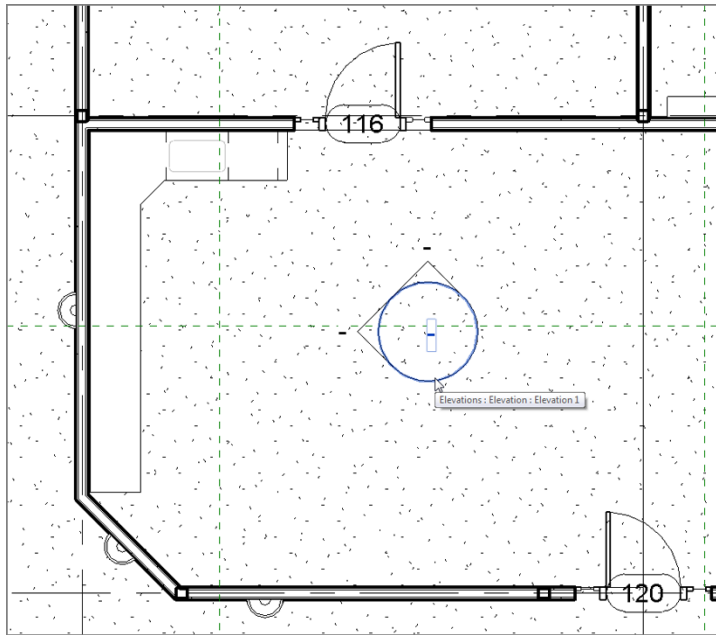

FIGURE 9.58: Adding elevations to aid in design
2. Add an interior elevation looking north, as shown in Figure 9.58.
3. Select the elevation marker, and turn on the elevation looking west (see Figure 9.58).